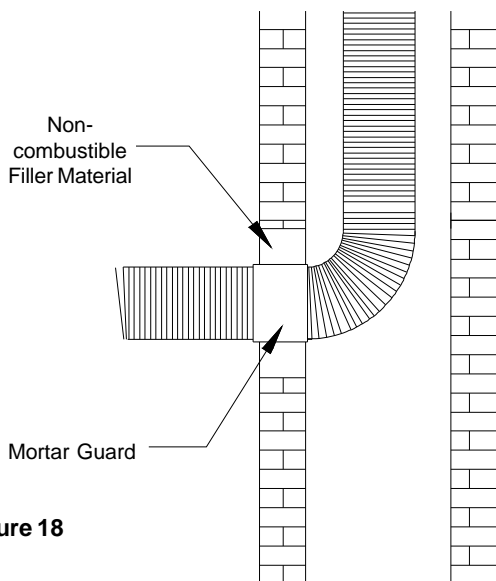

Figure 18
Trim the Flexible Liner flush with the Mortar Guard. Insert the end of a single-wall vent connector pipe (by others) into the Flexible liner. Secure into place with four (4) evenly spaced screws through the Mortar Guard and into the Flexible Liner and the vent connector (see Figure 18).
When used as a single-wall vent connector, and if it is acceptable, the flexible liner system may be extended all the way to the appliances and installed with 1" (25mm) airspace clearance to combustibles. Remember to include a minimum of 1/4" per foot rise in any horizontal sections (from the appliance to the chimney) and keep turns to a minimum (see Figure 18).